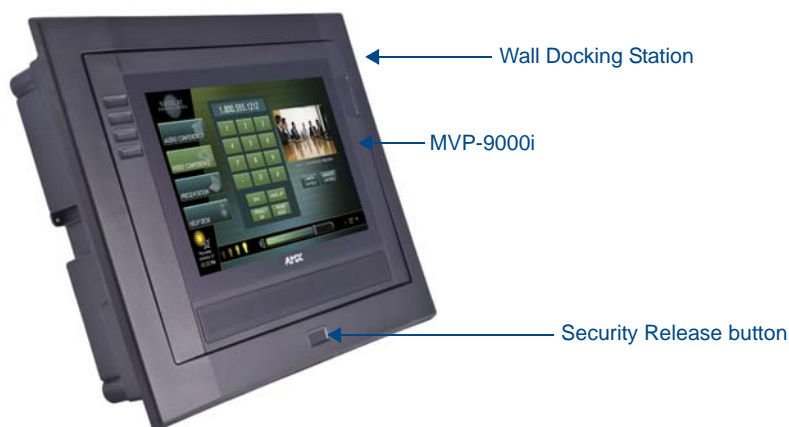

FIG. 11 MVP-WDS-9-GB Wall Docking Station - Side view
1. Press the **Release** button (see FIG. 7 for the Table Docking Station or FIG. 11 for the Wall Docking Station).